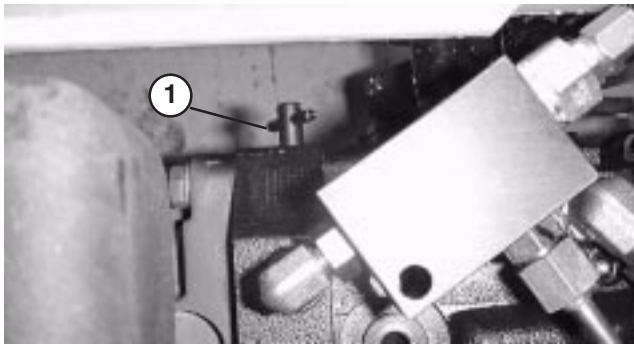

Figure 26
- Reach under traction unit and rotate bypass valve (Fig. 26) 1/2 to 1 turn counterclockwise. Opening the valve opens an internal passage in the transmission, thereby bypassing transmission oil. Because fluid is bypassed, traction unit can be moved without damaging the transmission.